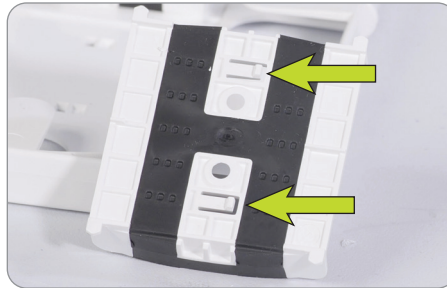

Figure 32
1. To add a splice module to Apex splice tray, simply align the latch tabs. (Figure 32)